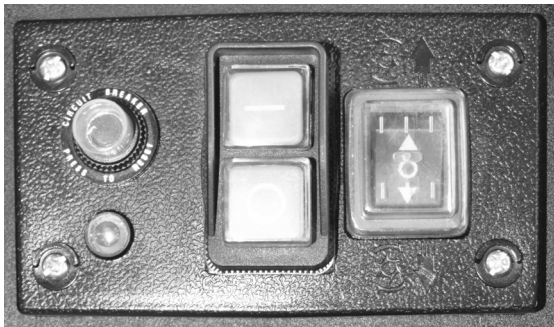

Fig. 11
Press the green button "I" of on/off switch (Fig. 11).
Press the red button "O" of on/off switch (Fig. 11).
2. Press "I" switch (green switch) to make the machine run (Fig. 11).